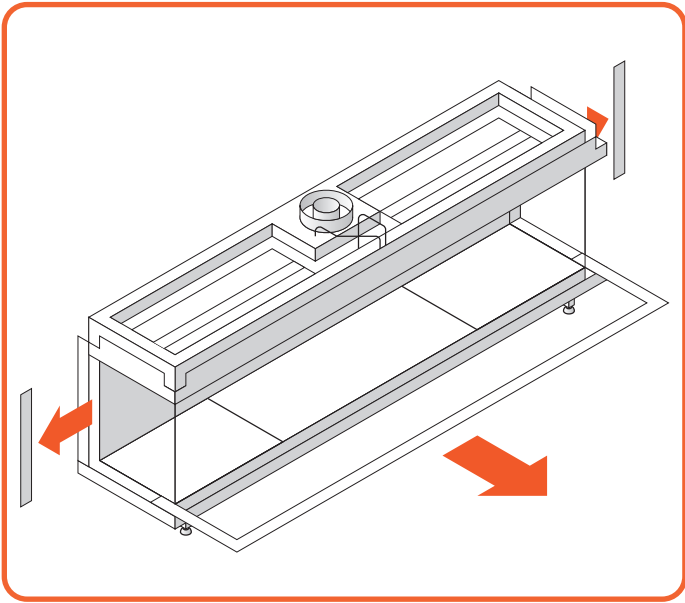

Figure 10.2 - Remove side trims
- Remove both the side trims and bottom trim. They are held by magnet snappers, **Figure 10.2**.